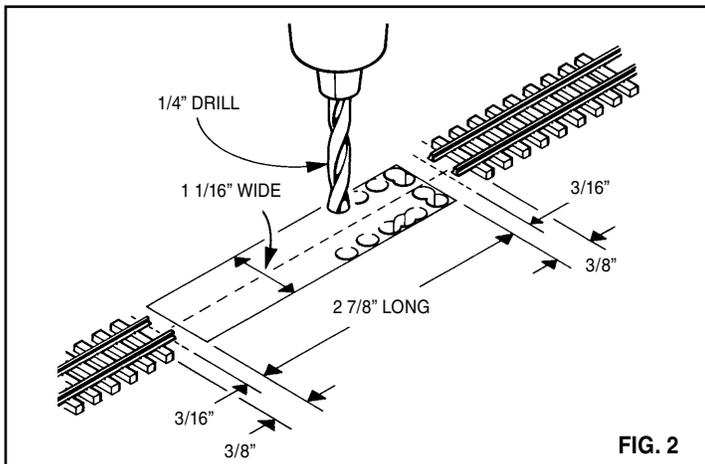

FIG. 2
- After determining where you want to install the uncoupler you will have to cut a hole in the layout 1 1/16" wide and 2 7/8" long that is in line with the track. If you already have track (with or without roadbed) down, remove a section of it down to the layout base according to the dimensions shown in Fig. 2. If you have yet to put any track down, wait until the hole in layout is complete. After location of track, ties and hole are clearly marked with a pencil, take a hand or power drill with 1/4" drill installed and make a series of holes along the dimensional lines of the hole area. Overlap these drill holes often. After drilling, take a sharp chisel and carve down thru the non-overlapping holes until center drops out smooth rough edges with a medium file or flat chisel.